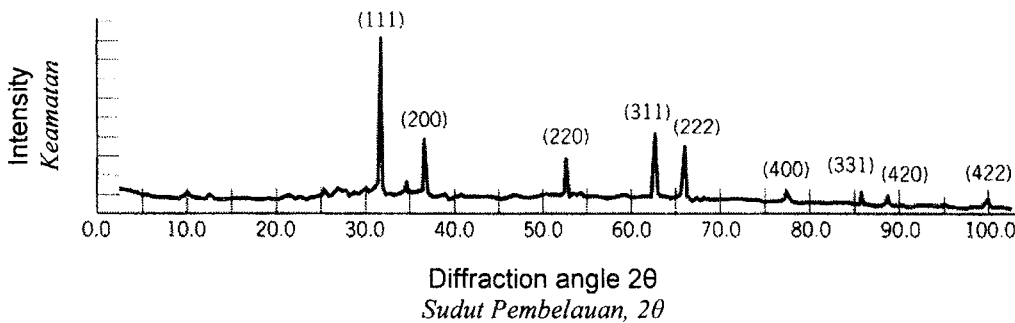

Figure 2 - XRD pattern of lead
5. Figure 2 shows an x-ray diffraction pattern for lead taken using a diffractometer and monochromatic x-radiation having a wave-length of 0.1542 nm; each diffraction peak on the pattern has been indexed. Compute the interplanar spacing for (111) plane.